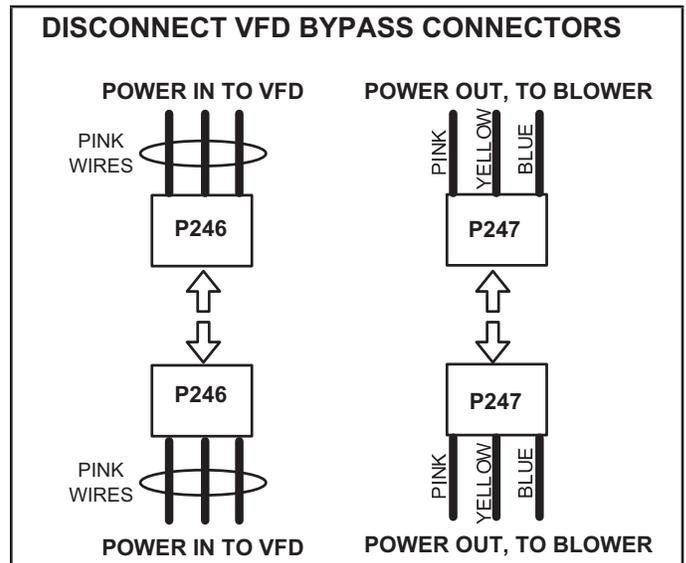

FIGURE 36
- 3 - Disconnect P246 from P246 (power in to VFD) and P247 from P247 (power out to blower). See FIGURE 36.